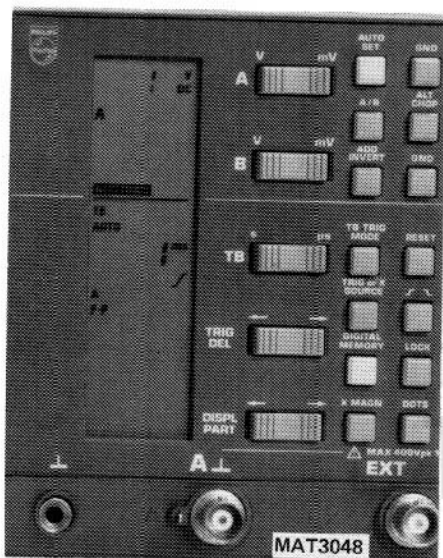

Figure 4.1 SOFTSTART condition
- 4- Check if the front controls are set in the softstart condition as indicated in figure 4.1.